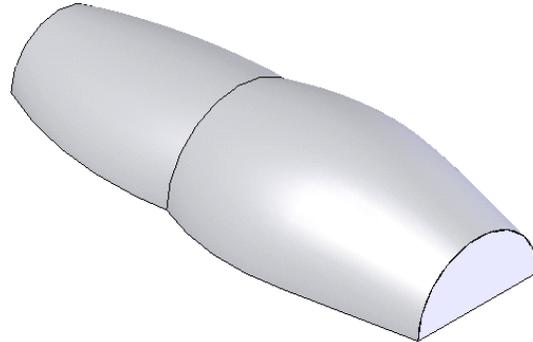

**Figure 15-120** Resultant lofted surface
4. Using the **Lofted Surface** tool create the lofted surface as shown in Figure 15-120.